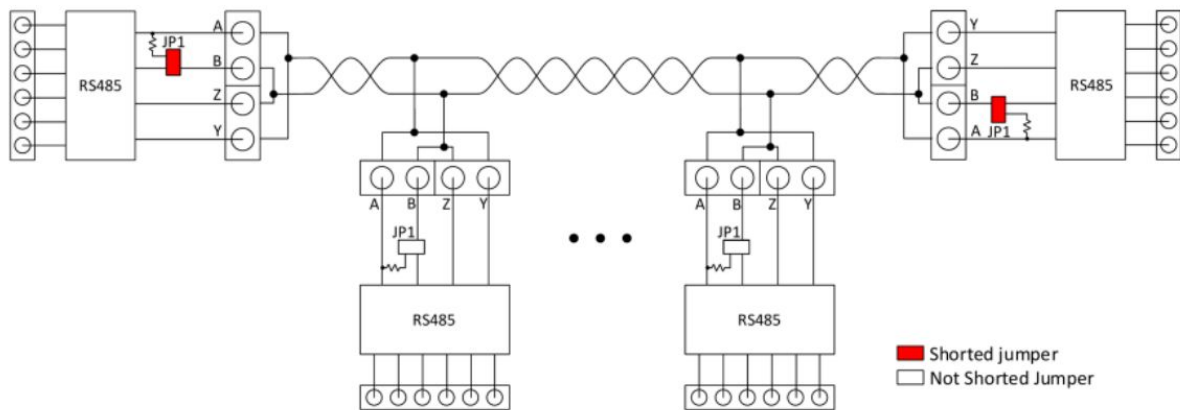

Figure 5: Connections on the RS485 bus for half duplex communication
- At the output of the PmodRS485 module, pins A and Y must be connected together, as well as pins B and Z (see figure 5). For wiring with the RS485 network, see also the document entitled: "pmodrs485_rm.pdf".
- Pin RxD (3) of the PmodRS485 module must be connected to the Rx of NextPM (pin 4 on the connector).
- Pin TxD (2) of the PmodRS485 module must be connected to the Tx of NextPM (pin 3 on the connector).
- Pin /RE (1) and DE(4) of the PmodRS485 module must be connected together and to pin CS of NextPM connector (pin 5).